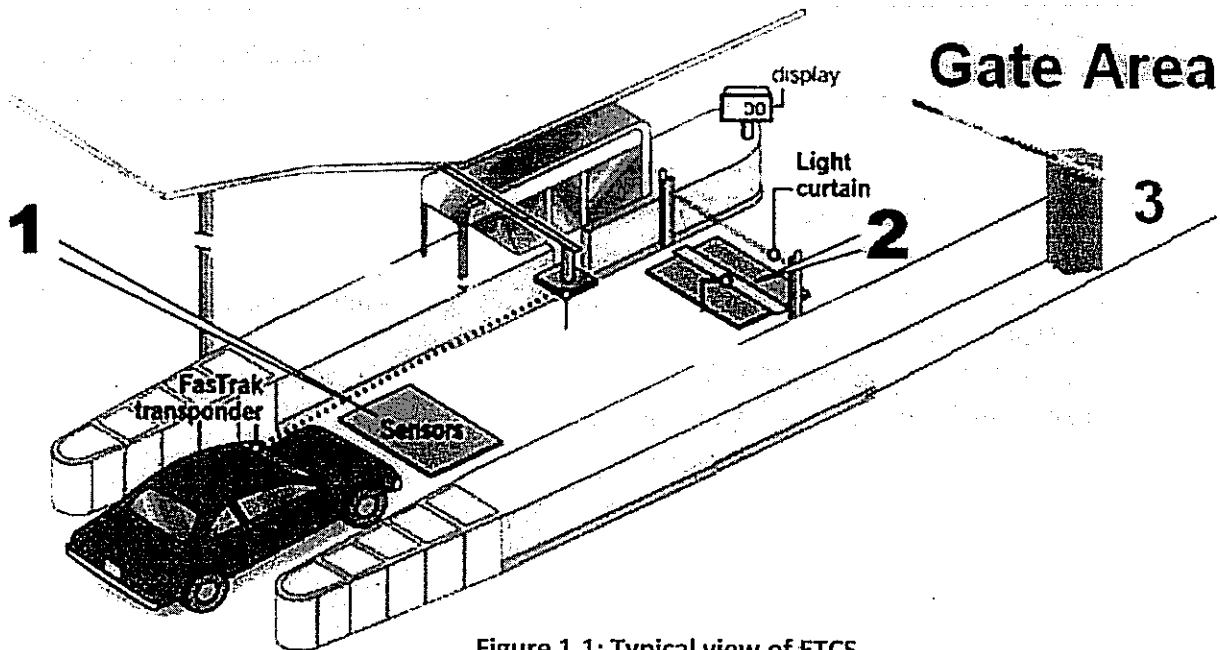

Figure 1.1: Typical view of ETCS
The electronic toll collection system (ETCS) allows drivers to pass through toll gates without stopping for toll payment. A typical view of the toll booth in *ETCS* is shown in Figure 1.1.
You are required to analyze and design the toll booth operation as depicts in the Figure 1.1. As a vehicle approaches the toll booth, sensors alert the electronic toll collection system of its presence (refer no **1** in the typical view).
- (i) Identify the sensors and the actuators required in each phase that shown in the Figure 1.1 (no 1, 2, and 3). [10 Marks]